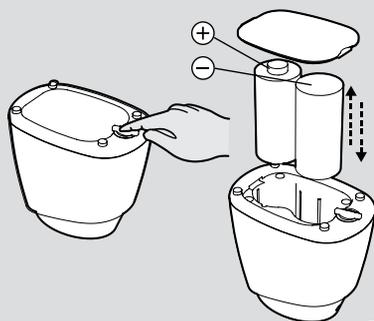

Fig.28
**REPLACING THE VIRTUAL BARRIER BATTERIES [Fig.28]**